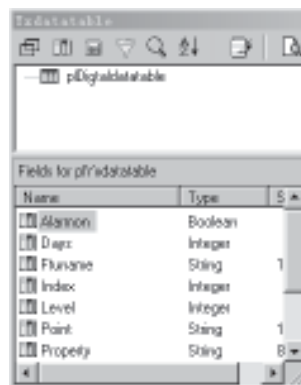

**Fig. 8-10 Set Ordering Fields**
2.7 Select the ordering conditions as in Fig. 8-10. 'Natural Order' means not ordering and 'Set Order' means selecting the ordering fields. Then click the 'Next' button.